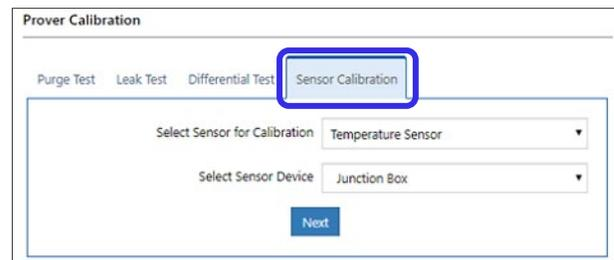
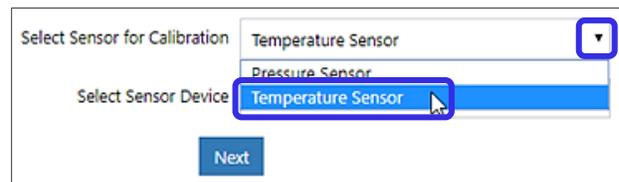

Figure 113: Sensor Calibration tab
Figure 116: Select Temperature Sensors
2. In the Prover Calibration screen, click the **Sensor Calibration** tab (Figure 113).
2. In the Sensor Calibration screen (Figure 113), click the down arrow icon ▼ in the **Select Sensor for Calibration** field, and select **Temperature Sensors** (Figure 116).
1. In the Sensor Calibration tab (Figure 113), click the down arrow icon ▼ in the **Select Sensor for Calibration** field, and select **Pressure Sensors** (Figure 119).